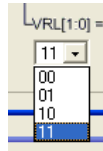

Figure 3-29
(1) Click the network by mouse, VRL can select the specified network.
(2) Click the network switch by mouse, VRL can select the specified network.
(3) Click the mouse, a menu as Figure 3-29 will appear. Users can select the specified switch network.